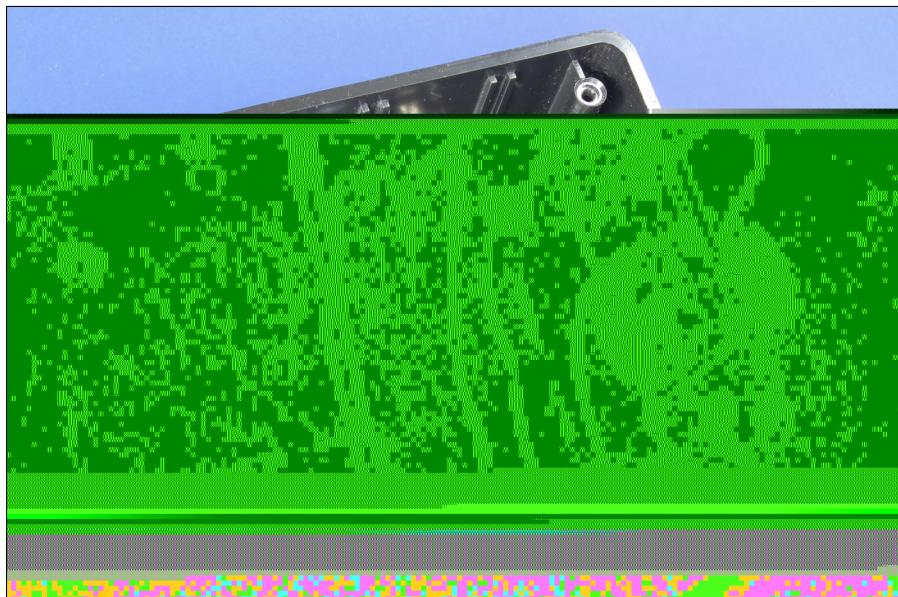

Figure 2-11:
8. Solder the black wire from the battery pack to one lug of the on/off switch and solder a 20 cm black wire to the remaining lug of the on/off switch, as shown in Figure 2-11.
9. Solder a 20 cm wire to the centre potentiometer lug and another 20 cm wire to the left potentiometer lug, as shown in Figure 2-11.
10. Solder a red 20 cm wire to the long lead of the LED and a black 20 cm wire to the short lead of the LED, as shown in Figure 2-11.
12. Solder a 20 cm wire to the lug on each of the phono jacks, as shown in Figure 2-11.